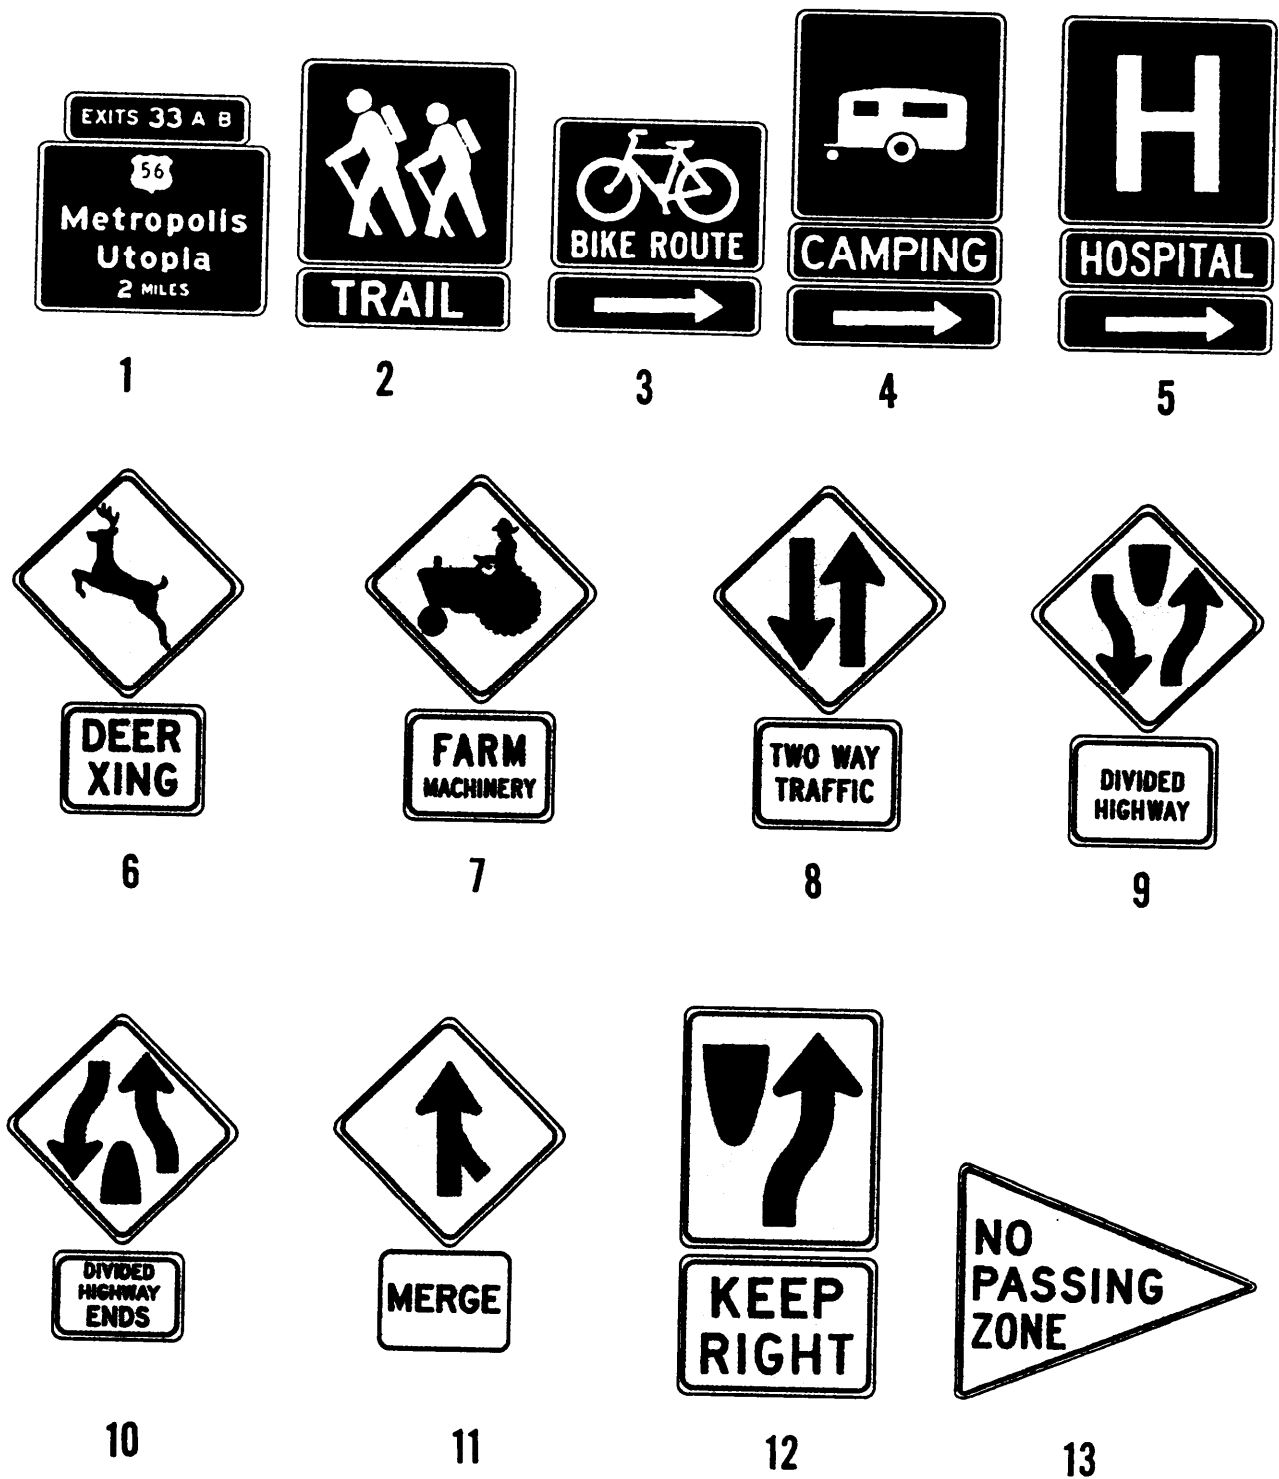

Figure 5-15.—Traffic signs and markings.
The international system used for traffic control devices emphasizes pictures and symbols, rather than written messages. Symbols have several advantages over word messages, such as the following: (1) they provide almost instant communication with the driver, because they can be understood at a glance without having to be read; and (2) they overcome language barriers which is important because of the growth of international travel. Familiarity with the symbolic signs can help Americans traveling abroad as well as foreigners visiting the United States. As the new signs are introduced, companion word messages will also be used until the public becomes accustomed to the new system. Figure 5-15 shows several traffic signs and markings that are used on U.S. roadways.